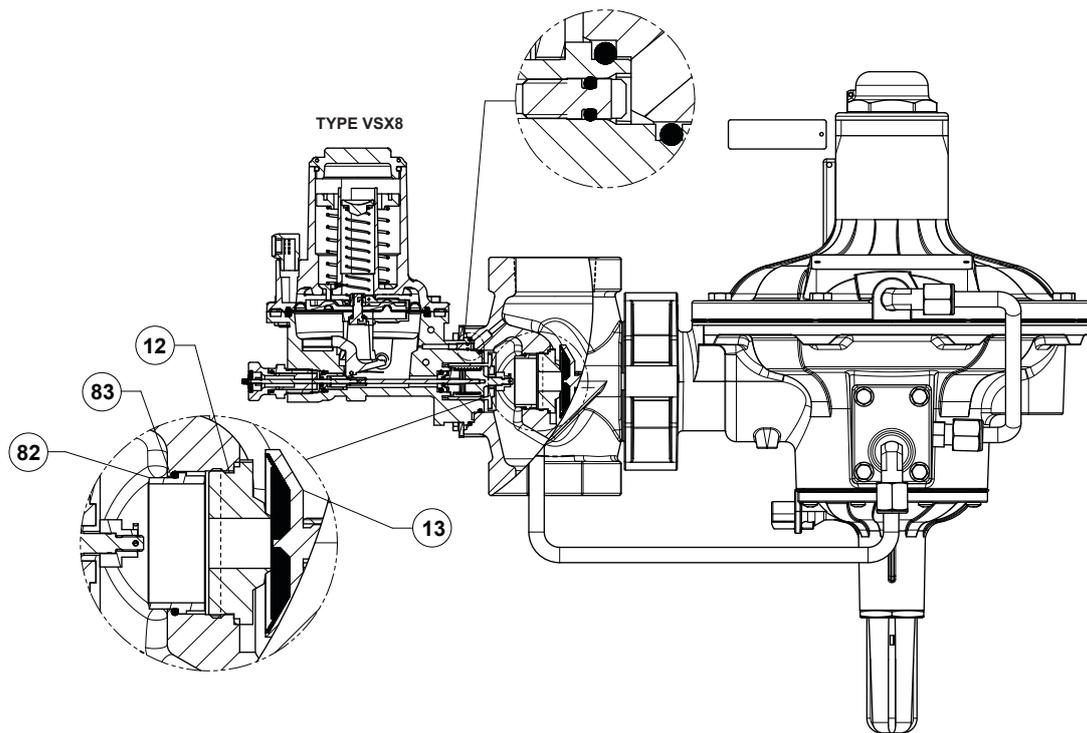

Figure 1. Type 299HV with Type VSX8 Assembly
- 82 Insert (For Types 299HV and 299HVR only, see Figure 1)
- 83 O-ring (For Types 299HV and 299HVR only, see Figure 1)
- 93 Spring Seat Washer (high vibration and engine applications - used with key 4)